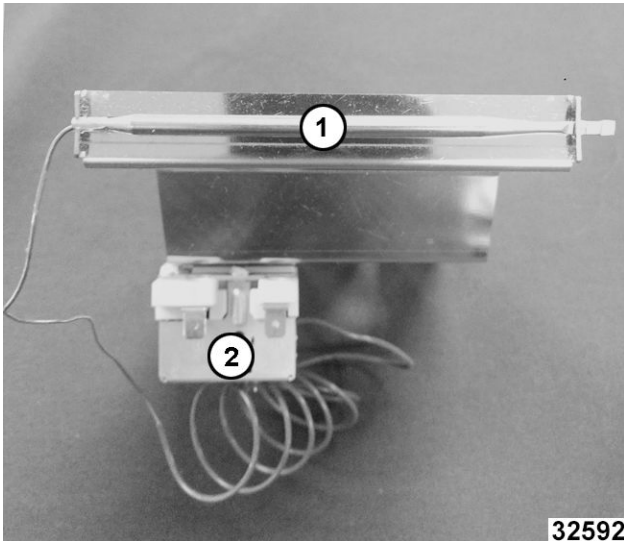

Fig. 38
6. Disengage the capillary bulb (1, Fig. 38).
7. Install high limit switch (2, Fig. 38) to bracket.